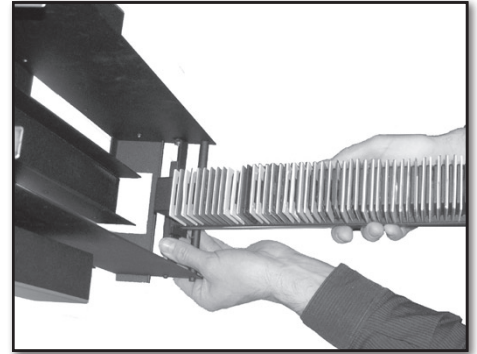

Figure 10: Removing the magazine drawer from its hinge.
3. The magazine drawer can be removed from its hinge. Do this now by grabbing the bottom of the Slide Feeder near the hinge with one hand and grasping the magazine drawer with the other hand. Hold the drawer from below and about halfway up (see Figure 10). Use the hand that is holding the Feeder to keep the Feeder steady while using your other hand to pull the drawer straight away from the Feeder; rocking gently from left to right can help loosen it. The drawer will come free from its hinge.